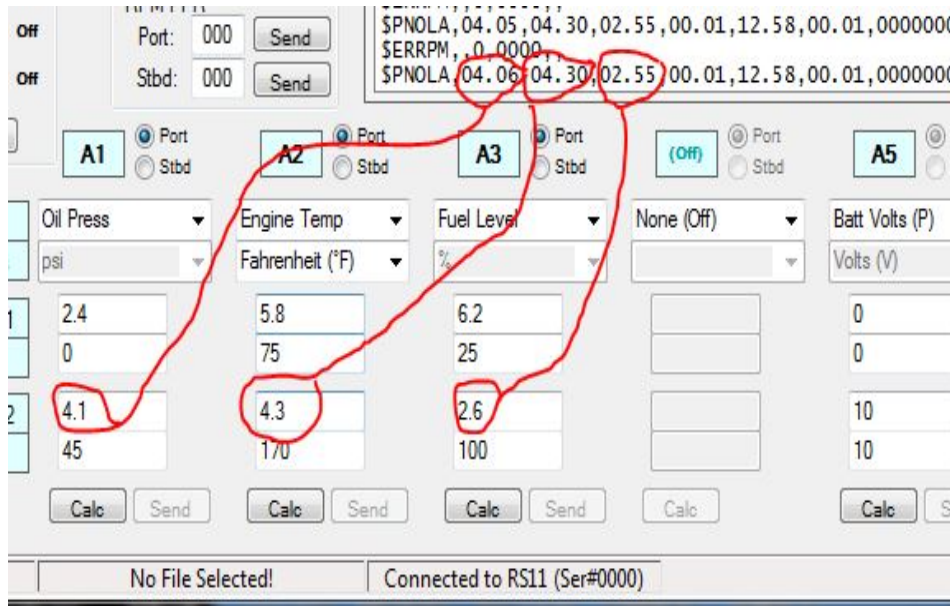

Figure 11. Second Data Point Calibration Example
- Figure 11- Second Data Point Calibration Example
To get the second set of calibration readings we now start the engine. In our example, we assume a gauge Oil Pressure reading of '45 psi' occurs at a new A1 voltage of "4.1" volts (see Figure 11). We enter these values into the lower boxes of A1. Oil pressure calibration is now done and we can select “Send” to send the calibration parameters to the RS11.